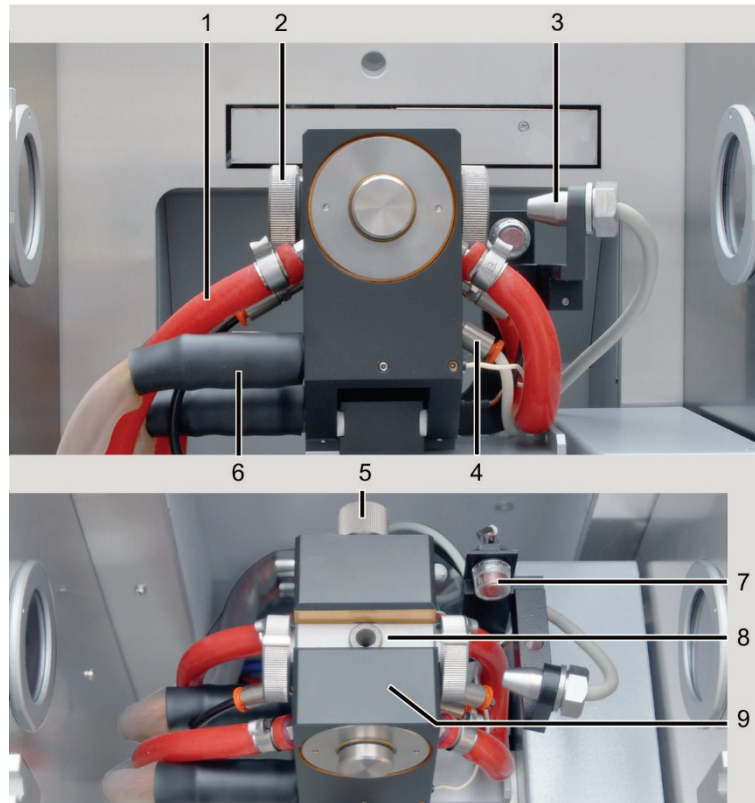

Fig. 7 Graphite furnace in the sample chamber
(item 5 in Fig. 7). The safety circuit disconnects the main power supply of the device if the cooling water temperature reaches ≥ 100 °C.